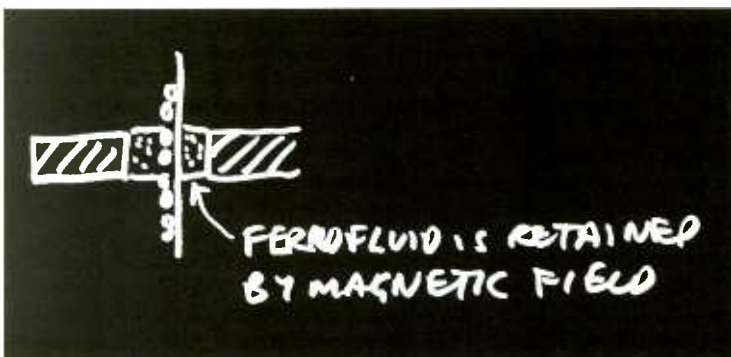

Fig. 2: Ferrofluid acts as heat conductive path to pole
Fig. 2 shows a hysteresis loop that is obtained by plotting the magnetisation (B) when the external field (H) is swept to and fro. On the macroscopic scale, the loop appears to be a smooth curve, whereas on a small scale it is in fact composed of a large number of small jumps. These were first discovered by Barkhausen. Starting from the unmagnetised state at the origin, as an external field is applied, the response is initially linear and the slope is given by the susceptibility. As the applied field is increased a point is reached where the magnetisation ceases to increase. This is the saturation magnetisation,  $B_s$ . If the applied field is removed, the magnetisation falls, not to zero, but the remnant magnetisation  $B_r$  which makes permanent magnets possible. The ratio of  $B_r$  to  $B_s$  is called the squareness ratio. In permanent magnets squareness is beneficial as it increases the remnant magnetisation, whereas in transformer cores and motor armatures it's definitely not hip to be square.